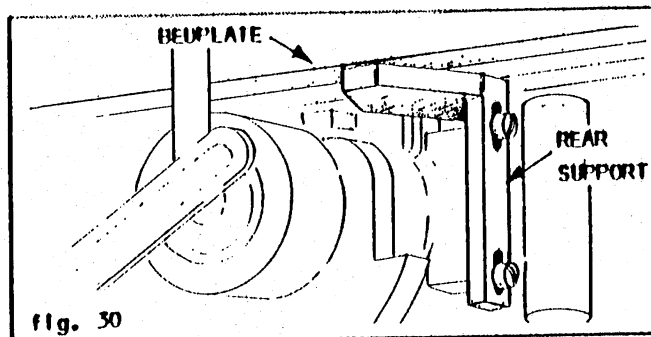

fig. 30
With bedplate in most forward position, loosen locknuts (U) and turn screws (V) inward until the play of the bedplate between the head and the cam case is eliminated - or all wink, tighten locknuts (U). Check rear support for flat contact with underside of bedplate (fig.30).